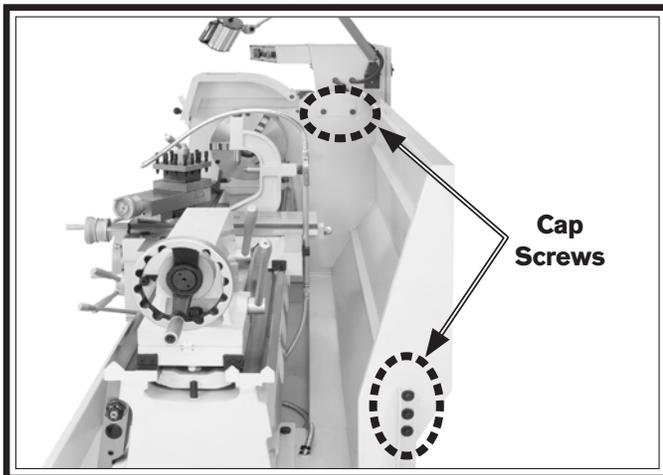

Figure 126. Locations of the backslash cap screws.
3. With the help of another person, remove the splash guard. See **Figure 126** for the locations of the cap screws that secure the backslash.